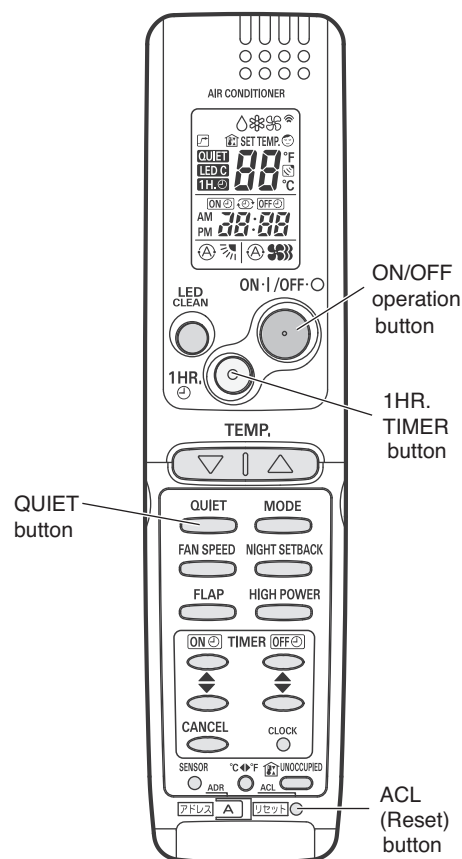

Fig. 59a
- (1) Set the remote controller in Test Run mode. (Fig. 59a)
- (2) Start Cooling mode test run by pressing the ON/OFF operation button of the remote controller. (Fig. 59a)
- (3) Press the ON/OFF operation button of the remote controller again to stop the test run. (Fig. 59a)
- (4) Finally press the ACL (Reset) button of the remote controller to release it from Test Run mode to return to normal mode. (Fig. 59a)